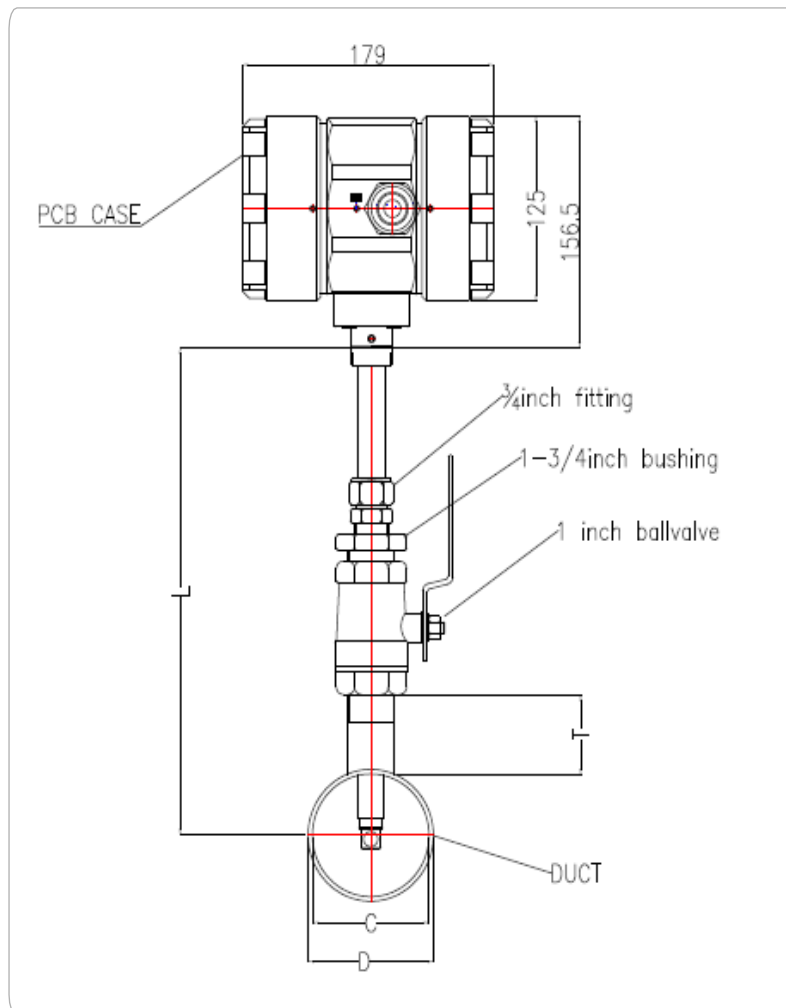

Figure 2-2. Low Pressure Tap InsertionDepth
2. Calculate the insertion depth of the flowmeter for either low-pressure or high-pressure hot taps, as shown in Figure 2-2.